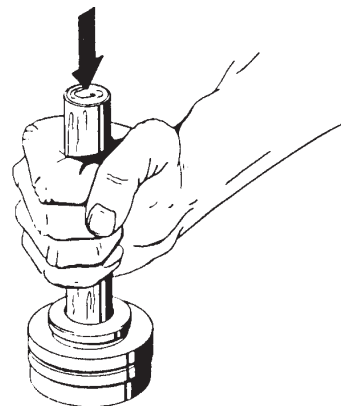

Figure 4-2
8. If the seal seat (#12.5) must be reused, use a wooden dowel sized to fit through the hole in the seal cup to tap it out. (refer to figure 4-2) Ceramic seal seats are particularly